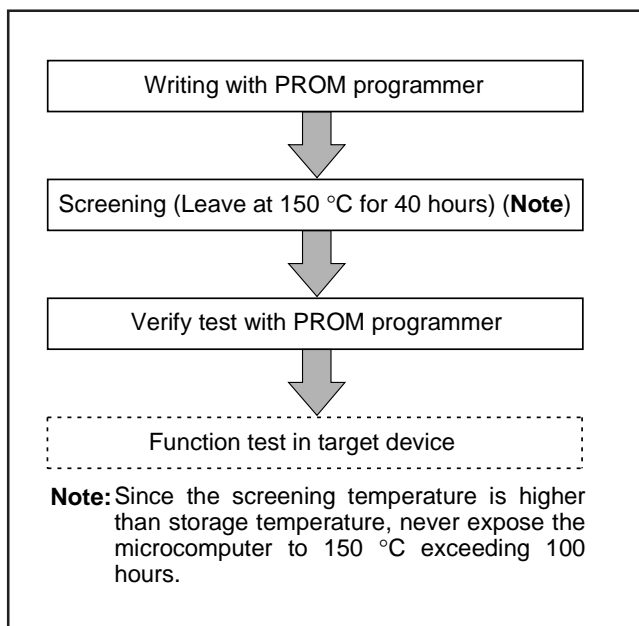

Fig. 69 Flow of writing and test of the product shipped in blank
(2) Notes on handling
- ① A high-voltage is used for writing. Take care that overvoltage is not applied. Take care especially at turning on the power.
- ② For the One Time PROM version shipped in blank, Renesas Technology Corp. does not perform PROM writing test and screening in the assembly process and following processes. In order to improve reliability after writing, performing writing and test according to the flow shown in Figure 69 before using is recommended (Products shipped in blank: PROM contents is not written in factory when shipped).
(3) Electric Characteristic Differences Between Mask ROM and One Time PROM Version MCU